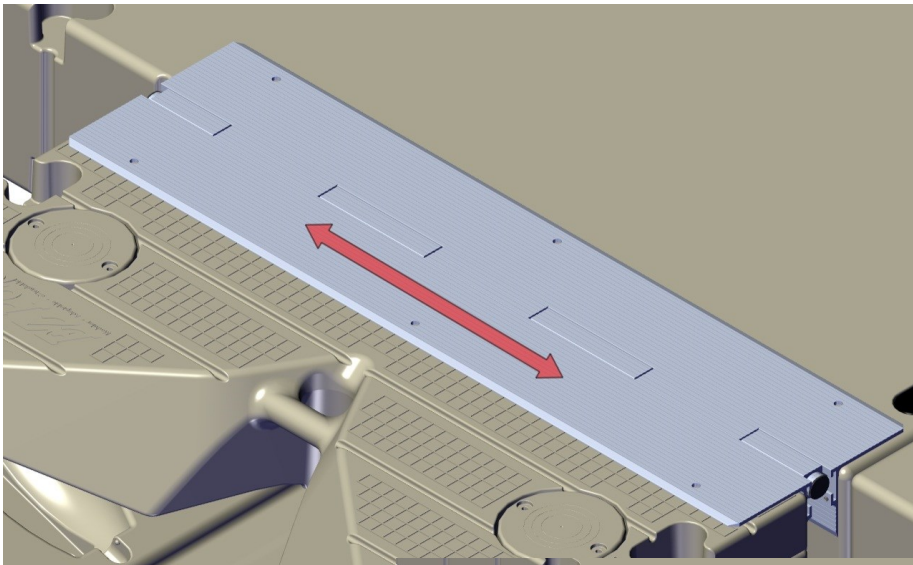
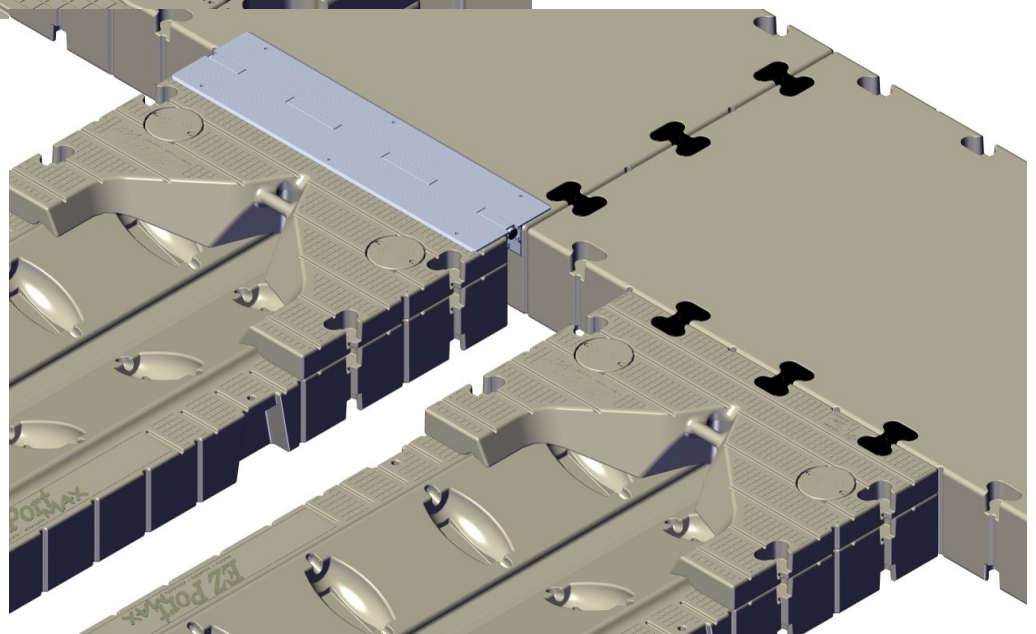
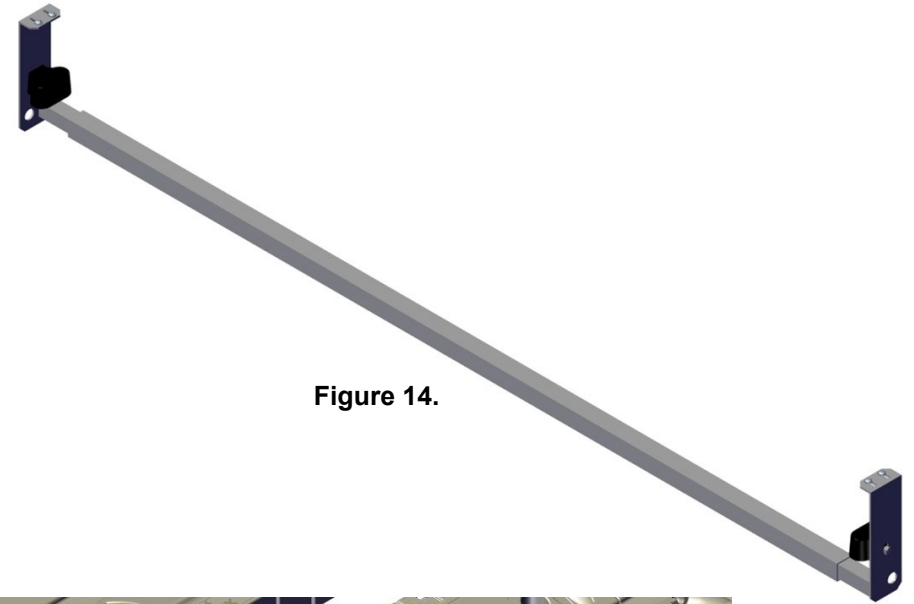

Figure 11.
Figure 12.
Figure 14.
10. Install the coupler nut (Item 4) onto the bolt and tighten until the top of the bolt is 3/8 -1/2" below the top of the nut (do not torque over 15 ft-lb). Due to the security feature on the coupler nut, the composite coupler installation tool (Item 3) is required for tightening. The coupler installation tool is splined on the end to be inserted into the coupler nut and the other end is a 15/16" bolt. This is inserted into a 15/16" socket (Item 2) with ratchet (Item1) for tightening (Figure 12).
The EZ Pontoon Lift mounts to existing or new EZ Dock installations using standard EZ Dock couplers or the Hinge to Float attachments kits shown in the image below. The center to center dimension on the pontoon boat will be the determining factor as to whether or not the below pair of G200460 Hinge to Float kits are needed. On pontoon boats having a center to center dimension of 78" the use of standard EZ Dock couplers can be utilized. If there is variance of the 78" dimension, either greater or less than 78", a pair of G200460 hinge kits must be used to adjust, laterally, the lift to the required center to center dimension (Figure 11). When deviation from the 78" dimension is necessary and the combination of EZ Dock Couplers and the pair of Hinge Kits (G200460) are used, the assembly will be that shown below (Figure 12).
The EZ Pontoon Lift, PL2000, utilizes an Under Water Finger Stiffener (UFS) to ensure that the center to center dimension of the pontoon boat is maintained throughout the length of the fingers. As seen in Figure 12 below, the UFS 200 connects to the molded in T-Nuts on the entry side of the port and uses a hardware connector to attach to the port. Using a slip tube method and a pair of 1/2" bolts to tighten the adjustment, the center to center dimension of the pontoon boat will be maintained (Figure 14).